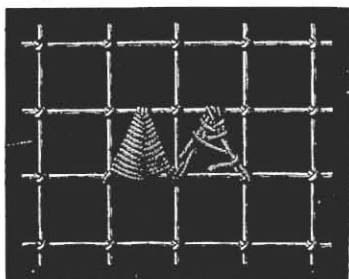

Fig. 27. Scallops in darning stitch.
**Scallops in darning stitch** (fig. 27). — Besides the stitches that fill in the empty spaces of the net and the leaves embroidered upon them you may also make rather elongated triangles. The simplest are those where the thread is carried from the corner of the knot to the middle of the bar, descending then to the opposite knot and winding round it, to come